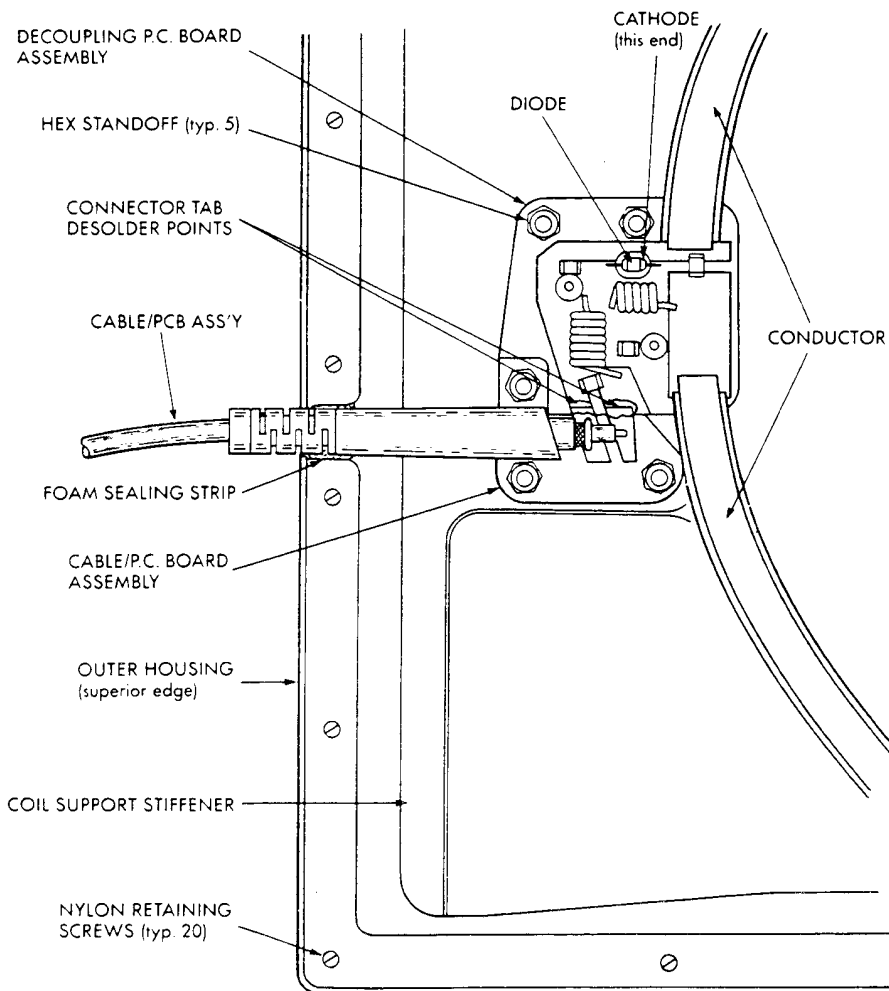

FIGURE 5—COIL PARTIAL BOTTOM INTERNAL VIEW
- Remove the nylon screws from the bottom perimeter of the coil (Fig. 5).
- Position the diode in the cut out slot. Refer to Figure 5 for proper orientation of the anode.